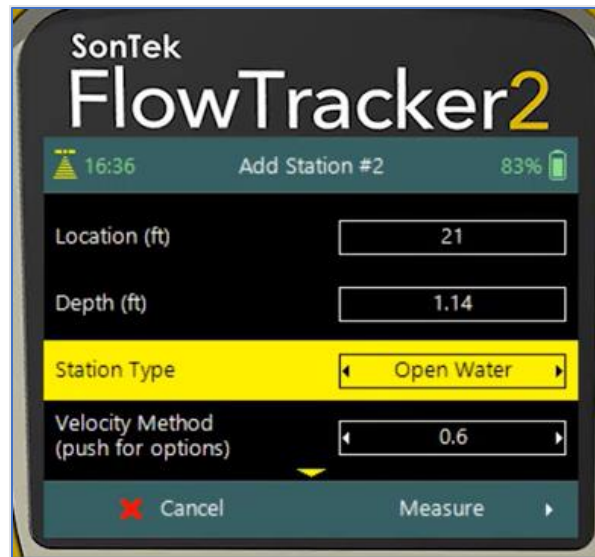

Figure SOP 24.9. FlowTracker2 Add Station Menu. Location and Depth are to be taken in meters (m), not in feet (ft).
2. Add your first point by pressing the left soft key once again to add a station, and input the new transect locations, and depths; but this time, ensure that the *Station Type* displays “Open Water” and change the correction factor to “1” before pressing the top right key to begin measuring (Figure SOP 24.9, below). Record the transect location and depth on the datasheet.